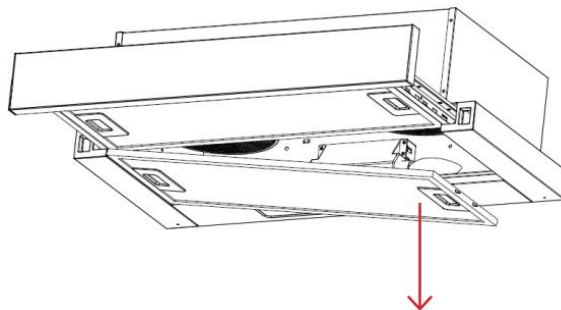

Fig. 17
1. Carbon filter can be used to trap odors. In order to install the carbon filter, the grease filter should be detached first. Pull out the slide and remove the grease filter. (see Fig. 17)